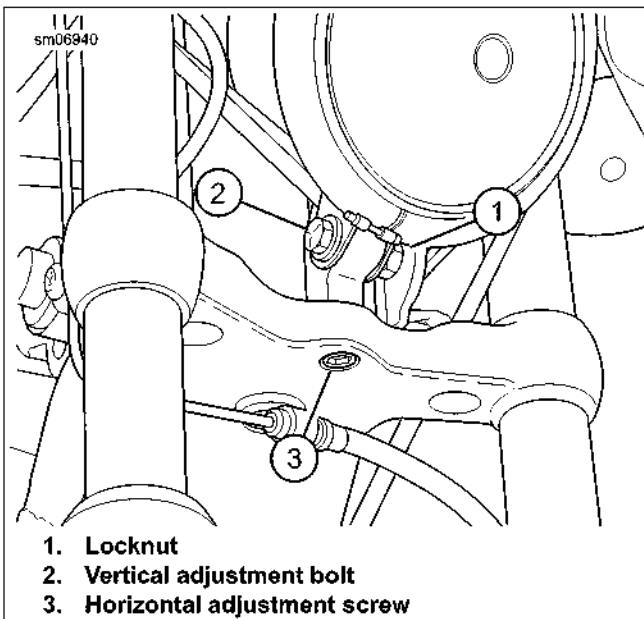

Figure 1-56. Headlamp Adjustment: XL 1200C/CP/CA/CB/V/X
- a. See Figure 1-56. Loosen horizontal adjustment screw (3).
- a. Loosen locknut (1) for vertical adjustment bolt.